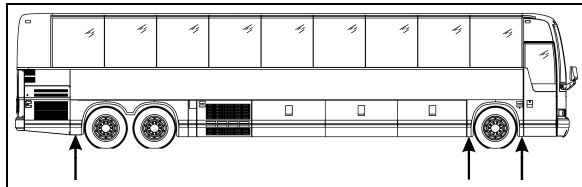

FIGURE 5: JACKING POINTS ON FRAME (TYPICAL) 18618
1. Raise vehicle by its jacking points on the body (fig. 5 or see Section 18, "Body" under heading "Vehicle Jacking Points"). Place jack stands under frame. Remove drive axle wheels (if required, refer to Section 13, "Wheels, Hubs And Tires".